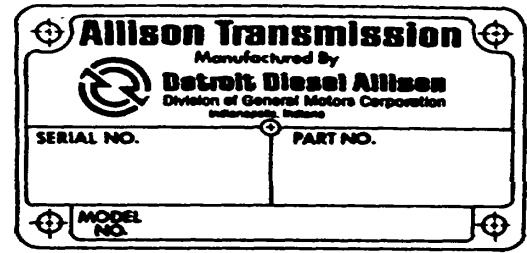

Fig. 1-7. Transmission nameplate
a. Transmission Nameplate. The nameplate (fig. 1-7), located on the right-rear side of the transmission, includes the transmission serial number, assembly number, and model designation. All three of these must be supplied when ordering repair parts or requesting service information.